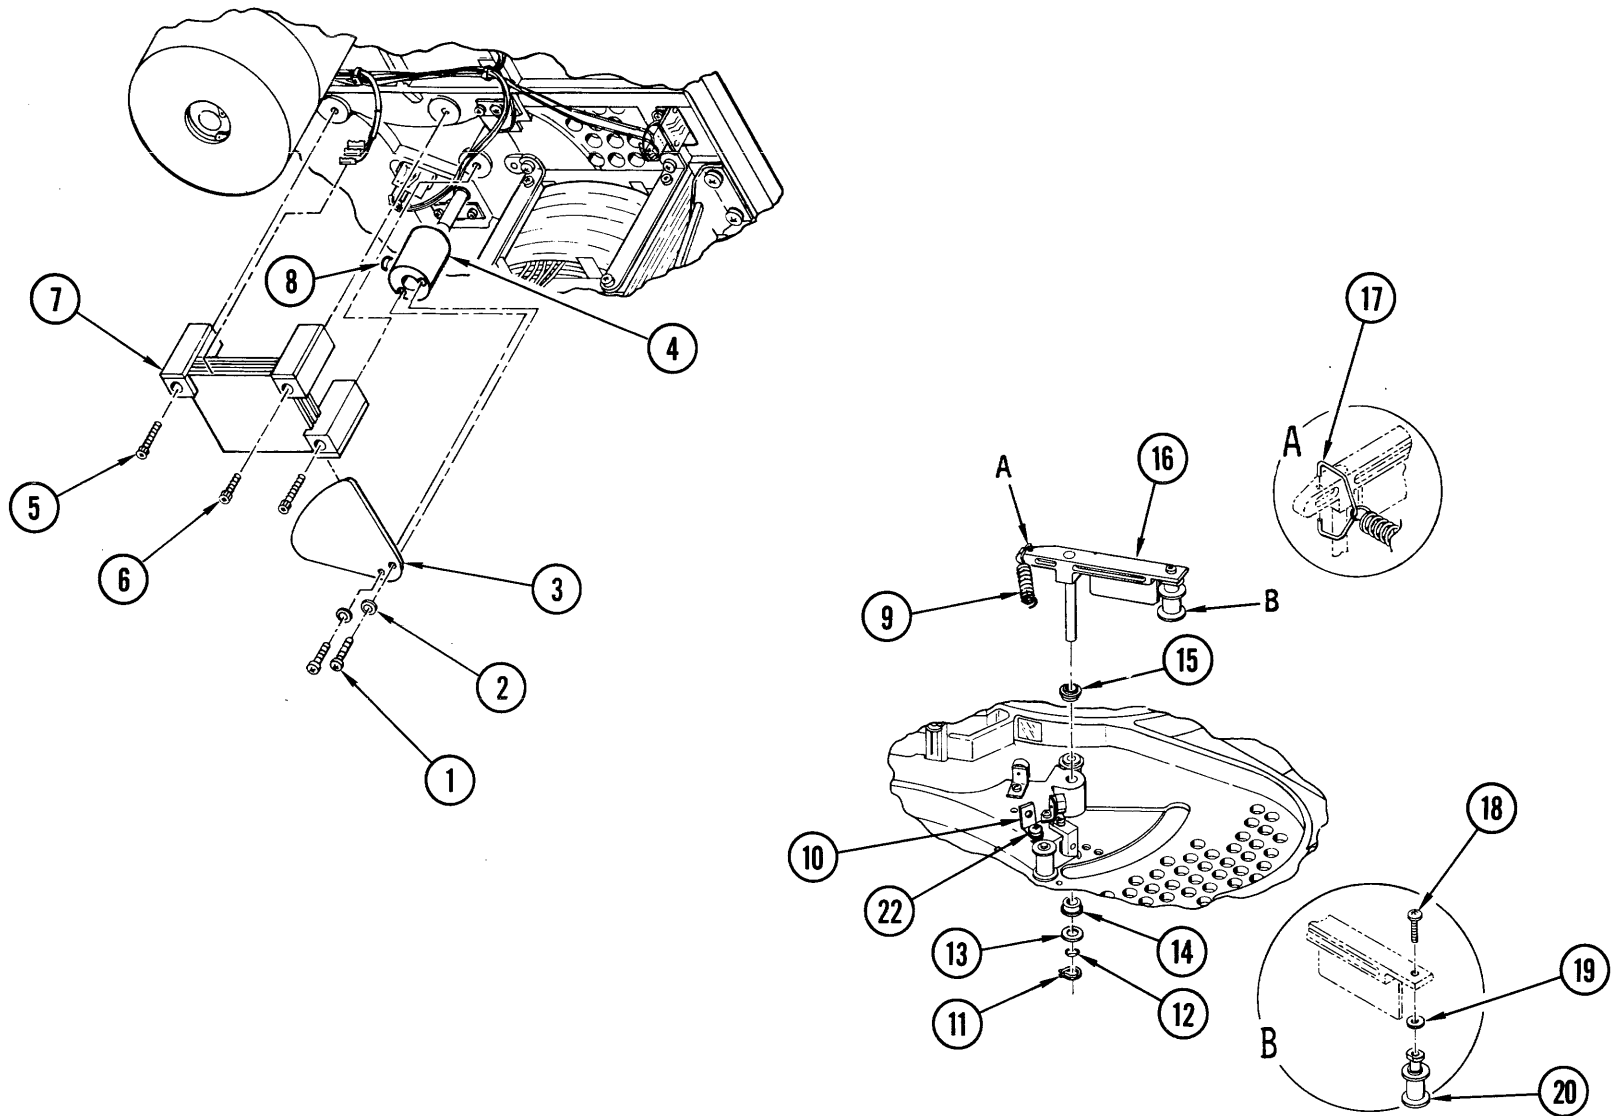

Figure 4-17. Compliance Arm and Air Capacitor Assemblies
4-30. **Removal and Disassembly (Figure 4-17).** Place the transport in service access position in accordance with instructions in paragraph 4-3. Proceed as follows:
- a. Replace defective parts and reassemble compliance arm assembly as shown in Figure 4-17, in reverse order of steps g through i, paragraph 4-30, observing the following special instructions.
- (1) Use attaching parts and shims saved from removal and disassembly as necessary.
- (2) Apply Lubriplate to bearing surfaces between clip (17) and arm (16).
- b. If bearing (14) or (15) was removed, apply small amount of Loctite 601 around outside of bearing and replace.
- d. Install shim (13), wavespring washer (12), and retaining ring (11) on bottom of shaft. Check wavespring washer (12) to see that it is compressed half of its height. If not, add shims (13) as necessary, checking compliance arm for freedom of movement.
- e. Slip hub (4) of capacitor shutter over end of compliance arm shaft, tightening socket head screw (8) just enough to hold hub on shaft.
- f. Mount air capacitor stator (7) to under side of top plate with one screw (1/2 - inch) (6), and two screws (5/8-inch) (5), applying Loctite 242 to screws before insertion.
- g. Slip blade (3) of capacitor shutter between two upper plates of capacitor stator (7), and attach to hub (loosen hub if required) with two screws (1), and flatwashers (2).
- i. Loosen hub socket head screw (8) slightly, rotate capacitor shutter blade (3) to within 0.1 inch of power supply housing, and adjust height of hub so that rotor blade does not bind on either plate of capacitor stator (7).